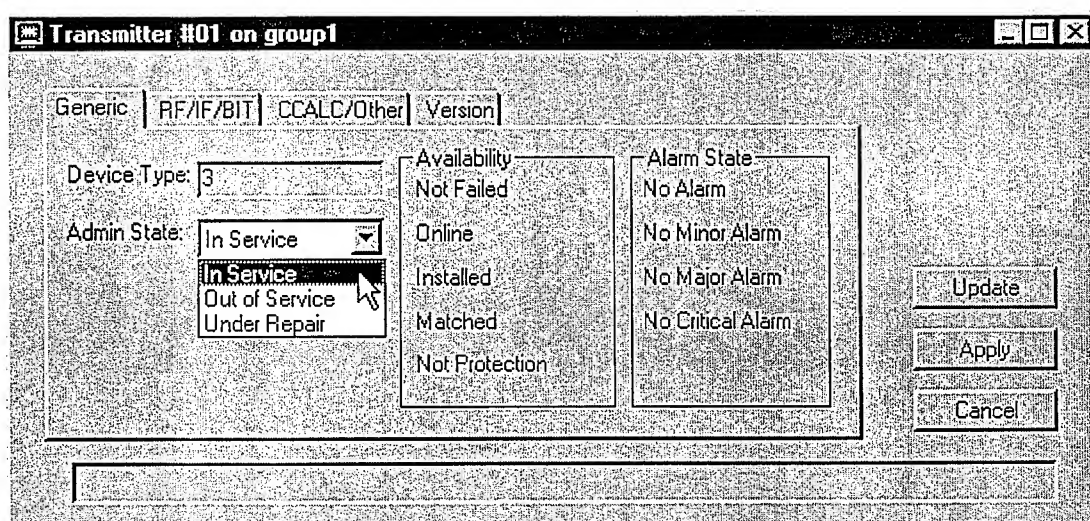

Figure 18. Solid State Transmitter Generic Tab
1. In the object tree pane (see Figure 16), double-click on the desired Solid State Transmitter to open the Solid State Transmitter Generic tab display (see Figure 18).